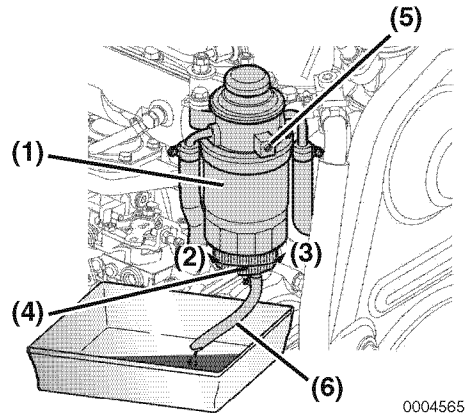

Figure 11
3. Attach a tube (**Figure 11, (6)**) to the drain plug (**Figure 11, (4)**).
- Loosen the drain plug (**Figure 11, (4)**) at the bottom of the fuel filter / water separator by turning counterclockwise and drain off any water or sediment.